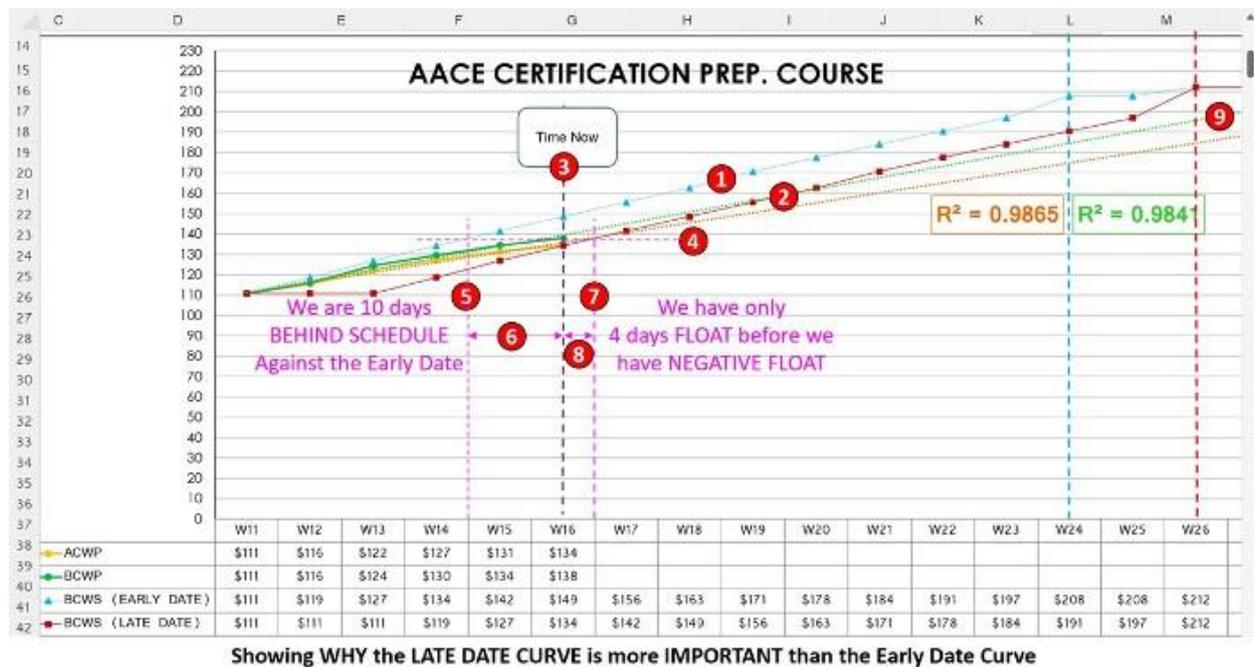

Figure 11- Demonstrating WHY the LD Curve is more IMPORTANT than the ED Curve
Figure 11 below is the actual Earned Value progress from a recent 26-week-long class. They are now in week 16 of a 26-week program. We selected this as a case study because we want to emphasize why it is so much more important as a management tool to show the relationship between the intersection where the BCWP line intersects the Time Now Line then drawing a HORIZONTAL LINE where it intersects the BCWP and Time Now Line, and extend that line (4)
Figure 11 above is the actual Earned Value progress from the same recent 26-week-long class. They are now in week 16 of a 26-week program. We selected this as a case study because we want to emphasize why it is particularly important as a management tool to show the relationship between the BCWP and the Late Date Curve. When they REBASELINED in Week 11, they had 14 days of TOTAL FLOAT. They just finished Week 16. In 5 weeks, they have managed to “eat up” 10 of those 14 days. How much longer do you think that continuing as they have for the past 5 weeks is going to take them to eat up the remaining 4 days of TOTAL FLOAT?